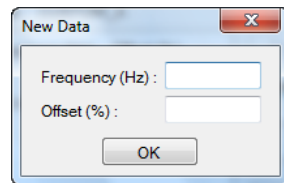

Figure 2-76 New Data dialog
- 6 Select **Insert** to add a new frequency point. Insert the desired frequency point and offset in the New Data dialog as shown in Figure 2-76.